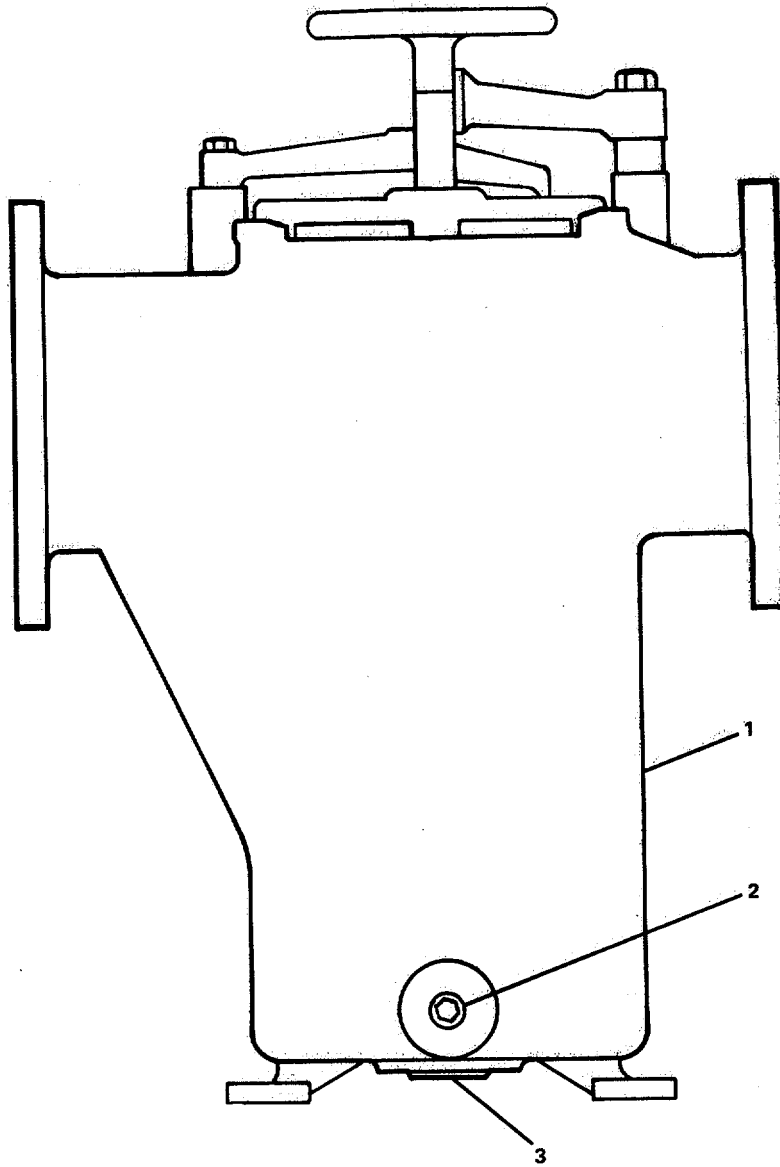

FIGURE 3-198. 5-Inch Simplex Sediment Strainer, Repair.
- d. Install flat washer (11), plain cap nut (10) and cotter pin (9).
- e. Install disk hanger (2).
- f. Install headed straight pin (3).
- h. Install gasket (6).
- i. Install access cover (7).
- j. Install plain hexagon nut (5).
**3-210. Repair 5-Inch Simplex Sediment Strainer. (Figure 3-198)**